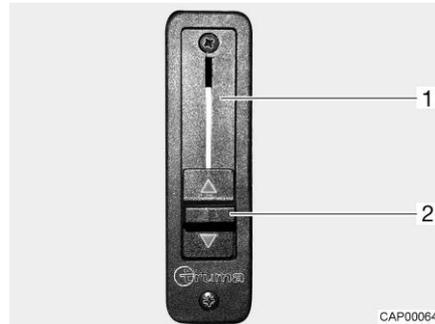

Fig. 37 Sliding regulator for branch block
- Push the sliding regulator (Fig. 37,2) fully upwards. The branch block (Fig. 37,1) is open. The living area heater also heats the windscreen.
- Push the sliding regulator (Fig. 37,2) fully downwards. The branch block is closed. The living area heater and the heater of the base vehicle are disconnected from each other.